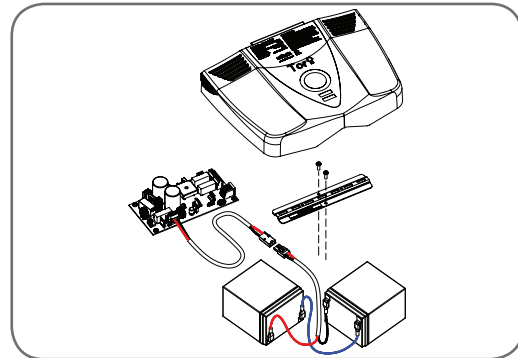

Fig 69
6. Remove the batteries and replace with the same type (**Fig. 69**).